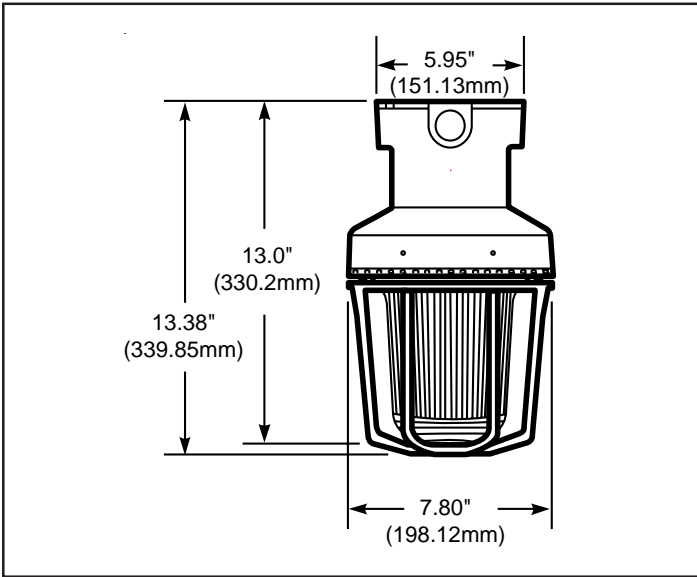

Figure 2. Detail of Ceiling Mounting
- b. **Ceiling Mount Models** (Figures 2 and 4): Unscrew the globe assembly from the ceiling mount box. Mount the ceiling box using appropriate hardware (not supplied) suitable for the mounting surface. Proceed to step 2.
106DEXCSTC-FJ	Ceiling Figure 2